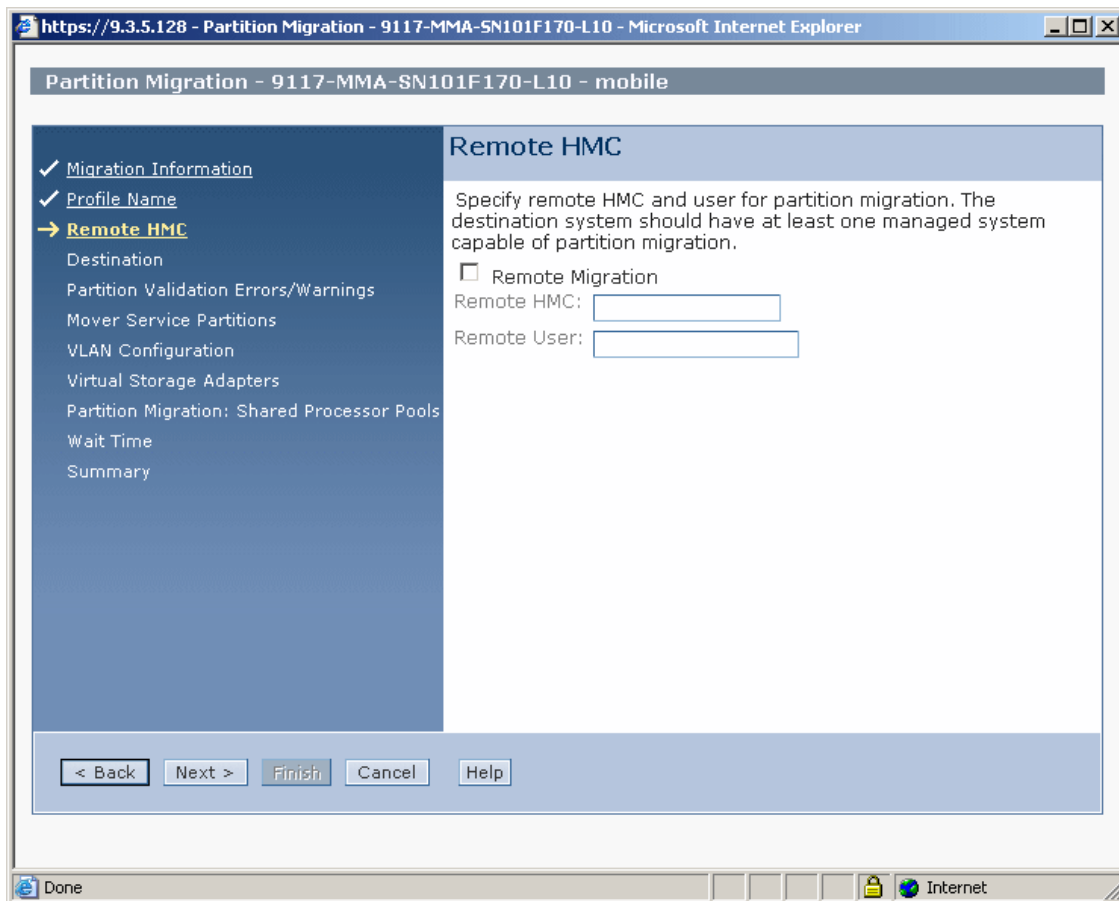

Figure 14-11 Optionally specifying the Remote HMC of the destination system
6. Optionally, for a remote migration to a destination server managed by a different HMC, enter the Remote HMC network address and Remote User. The example uses a single HMC, and therefore do not need Remote Migration as shown in Figure 14-11. Click **Next**.